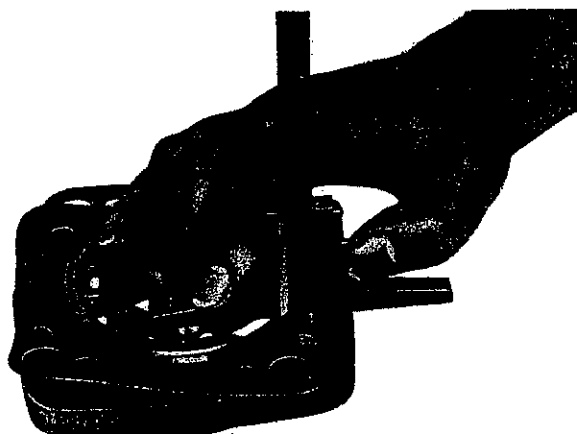

Fig. 63
- 2.4 Press ball bearing (22) up to stop into cover (25). Place gasket (24) on cover and determine projection of ball bearing outer race with depth gauge (Fig. 63).